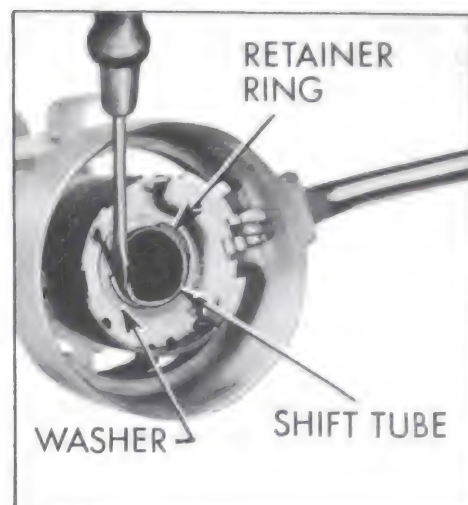

Figure 8-83—Removing Shift Tube Retainer Ring
3. Remove the shift tube retainer ring and washer from the top of shift tube. See Figure 8-83.